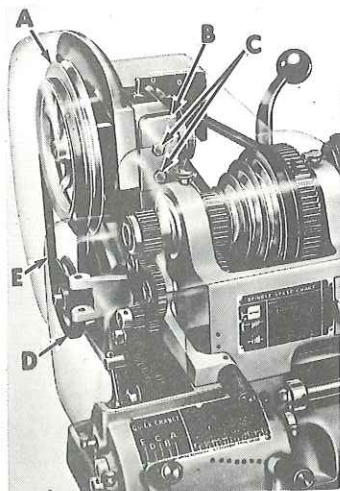

Figure 5
2. Tighten lock nut (D).
3. Mount headstock guard unit (B, Fig. 5) to bracket with two $\frac{3}{8}$ " hex cap screws (C).
1. Mount motor pulley (D, Fig. 5) on motor (small step towards motor).
3. Place belt (E, Fig. 5) on pulleys.